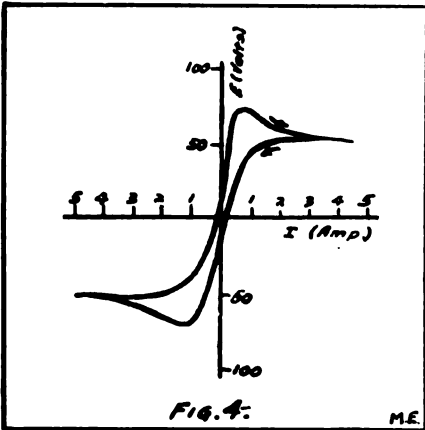

FIG. 4. M.E.
(2). *The Dynamic Characteristic*: This is in the form of the curve shown in Fig. 4. Two points are to be noted here:
phase; at the time the current is a maximum, the voltage is not. This is similar to the relation existing between magnetic induction and magnetic field strength in iron—in fact, the curve of Fig. 4 appears much like a “hysteresis”